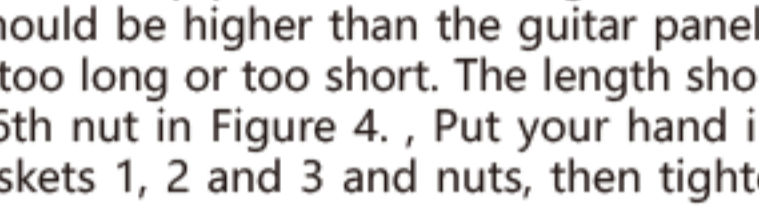

Fig.4
- 6.After the 6.35mm tail pipe is out of the guitar, the exposed head of the tail pipe should be higher than the guitar panel. The exposed part should not be too long or too short. The length should be equal to the length of the 6th nut in Figure 4. , Put your hand into the guitar, first tighten the gaskets 1, 2 and 3 and nuts, then tighten the 6.35mm tail pipe shell, and finally tighten the 4, 5, 6 gaskets and nuts, the gaskets and nuts are correct The installation sequence should be as shown in Figure 4. At this point, the 6.35mm tail pipe is installed.